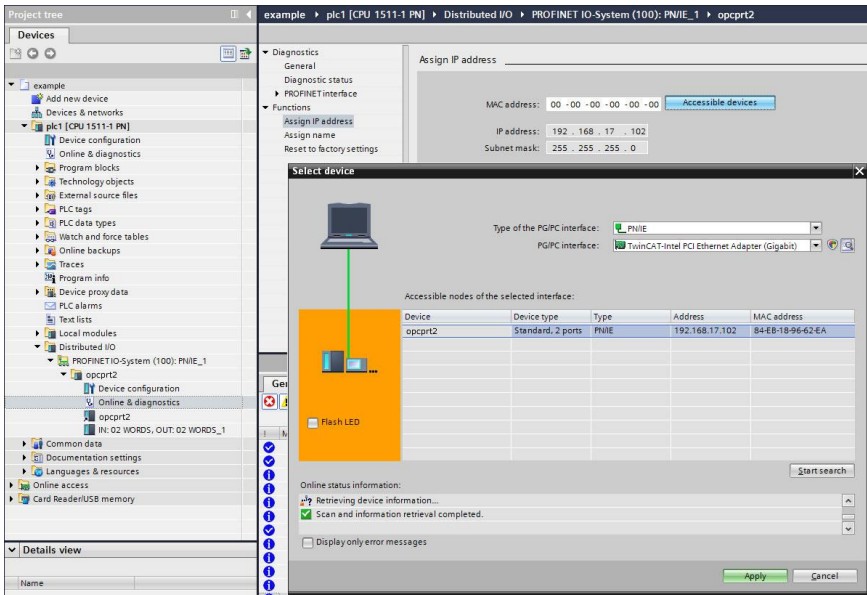

Figure 83: Discover PROFINET Devices on the Network
In the **Project tree**, expand **plc1...Distributed I/O...PROFINET IO-System (100):PN/IE_1**. Expand the device and double-click **Online & diagnostics**. In the next panel, expand **Functions** and select the **Assign IP address** button. Click the **Accessible devices** button. Select the appropriate **PG/PC interface** and click the **Start search** button to discover and display the PROFINET devices on the network as shown in Figure 83. Select the device and click the **Apply** button.